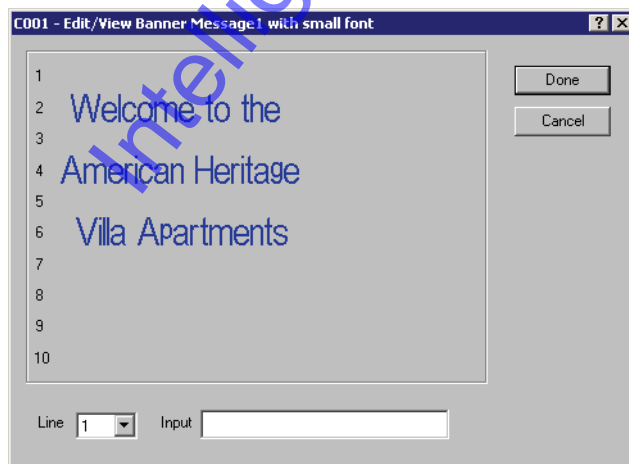

Figure 10-11: Edit/View Platinum Banner Message1 Window - Small Font
9. Edit the same lines as in the large font. The finished window should appear similar to Figure 10-11.